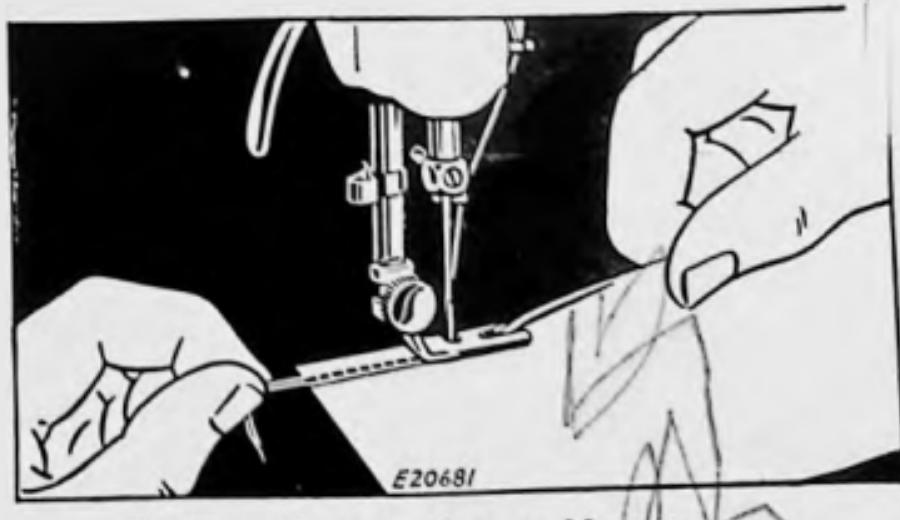

FIG. 36A. HEMMING EDGE OF MATERIAL AND PULLING BACK THREADS WHILE SEWING
(4) Lower hemmer and commence to sew, slightly pulling threads back while sewing. **KEEP MOUTH OF HEMMER FULL TO PRODUCE A SMOOTH, EVEN HEM** as shown in Fig. 36A.